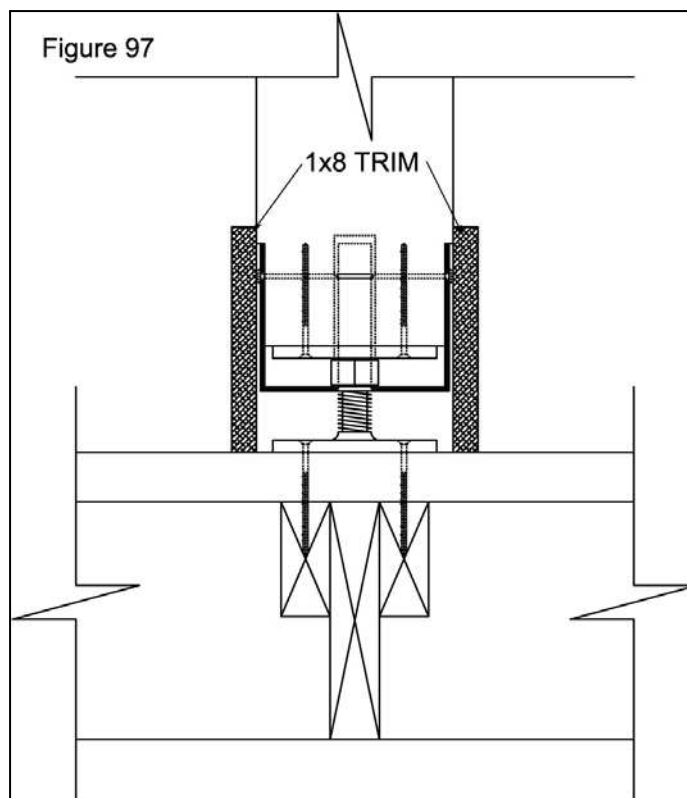

Figure 97. SCREWJACK AT PORCH POST (SIMILAR TO INTERIOR)
The 6x6 porch posts, (item 7), are erected with screwjacks as per Figure 97. The porch beam, (item 8), is erected atop the posts. If the porch beam consists of more than one piece, it must be butt-jointed as per Figure 35. The 4x6 porch rafters, (item 9), can then be installed, secured by a 12" ardox spike, (item 10), at each end. Reference the blueprints for the top bearing detail of the porch rafter. It may be necessary to install the 2x6 roof decking, insulation, and plywood first. If so, reference Figure 103. The 4x6 porch struts, (item 11), are then installed at each end of the porch or as per the blueprints. Note that all porch rafters, posts, and struts must be cut to size on site.